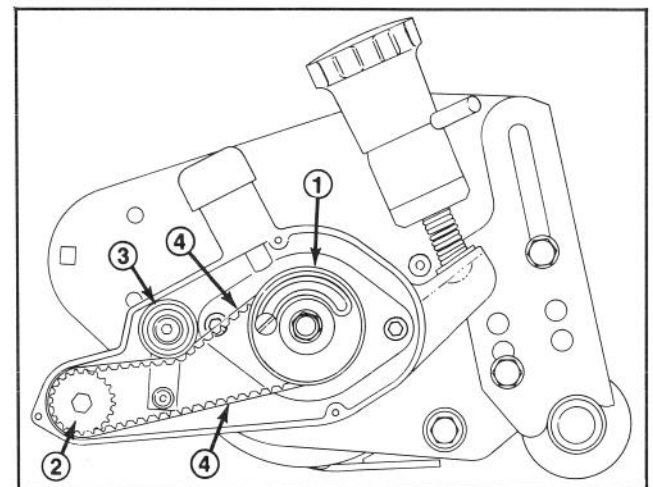

Figure 14
- C. Position the toothed belt over the drive pulley (that was removed from the clutch in step 10B). While holding the belt on the drive pulley, simultaneously slide the drive pulley back into place on the clutch adapter and position the belt around the driven pulley and under the backside idler (Fig. 14).
2. Belleville washers (2)
- E. Check the tension on the drive belt by depressing it at the point midway between the drive pulley and the driven pulley (Fig. 14). A force of 5 to 10 lbs. should be required to depress the midpoint of the belt 1/4 inch. To adjust tension, loosen the backside idler pulley pivot allen head bolt, pivot the idler to achieve the proper tension, and tighten the allen head bolt 7 to 10 ft. lbs. of torque.